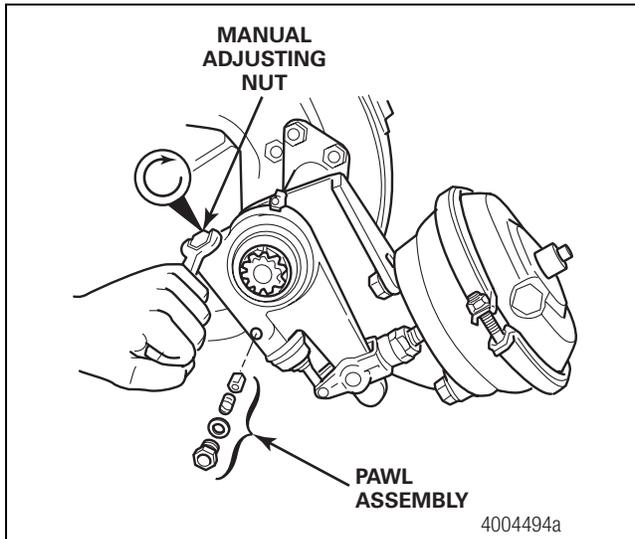

Figure 3.2
- If the slack adjuster has a conventional pawl: Remove the pawl assembly, pressure relief capscrew, spring and pawl, from the side of the slack adjuster housing. Figure 3.2.